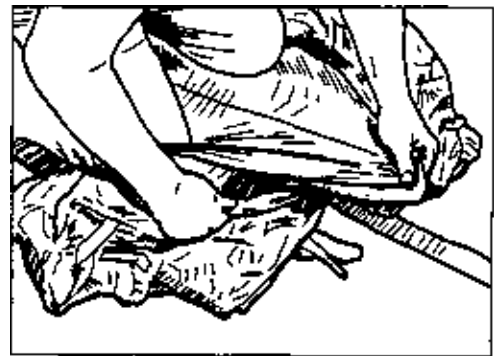
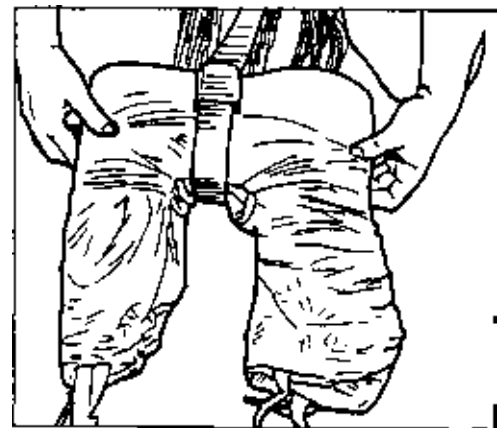

Figure 5
Figure 6
Step 12 Locate the center seam of the upper surface of the canopy. Take the fabric to the left of the seam and pull it to the left. Take the fabric to the right and pull it to the right. *Figure 5* When the bulk of the fabric has been distributed into the narrow stack, fold each side 90 degrees towards the top of canopy so that the whole package is in a "U" shaped configuration. This will be known as the "Molar". The use of the canopy compression strap at this time will hold the canopy securely. *Figure 6*